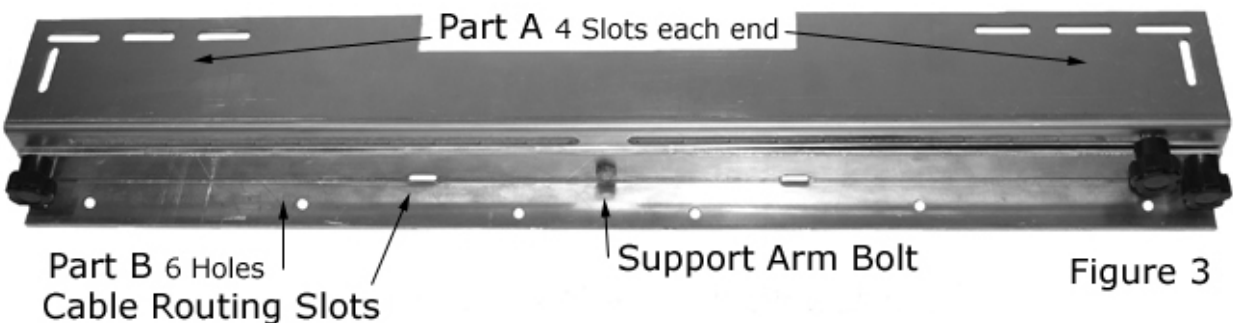

Figure 3
Step 12: Raise the Support arm even with the long slot and install the Support Arm Knob. The RVSC Dual Tilt Mount should now look like figure 3.